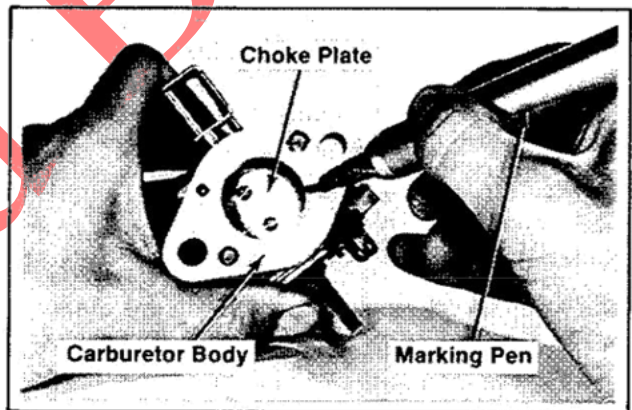

Figure 6-12. Marking Choke Plate And Carburetor Body.
1. Because the edges of choke plate are beveled, mark the choke plate and carburetor body with a marking pen to ensure correct reassembly (refer to Figure 6-12). Also take note of the choke plate position in bore, and the position of the choke lever.